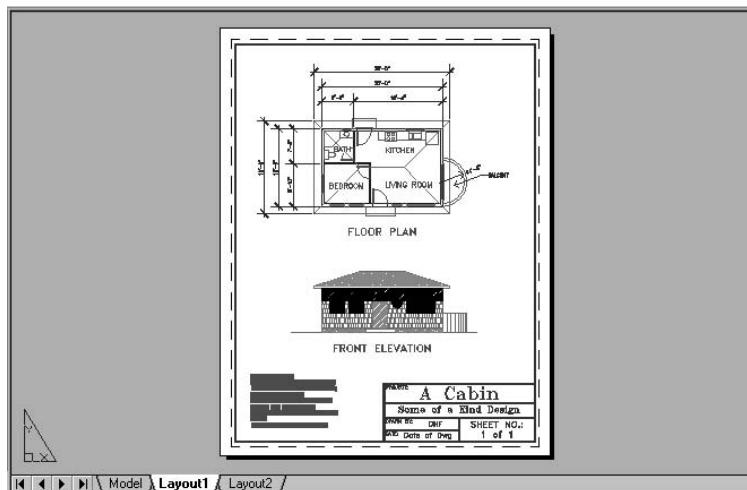

FIGURE 14.12: The Cabin13b drawing ready for printing
1. Open Cabin13b. Be sure the Layout1 tab is active. Check the status bar to be sure that the Paper/Model button is set to Paper. This drawing is similar to Cabin11a. The only difference in appearance is that this one displays the dashed lines just outside the border, and the sheet is resting on the gray background with a shadowing effect, similar to how a Preview appears (see Figure 14.12). These differences are the result of this drawing having a layout that contains the title block and border, with a viewport through which the model of the cabin is seen. The viewport is on a layer that's been frozen, so you can't see its border. (For a review of layouts and viewports, see Chapter 13.)